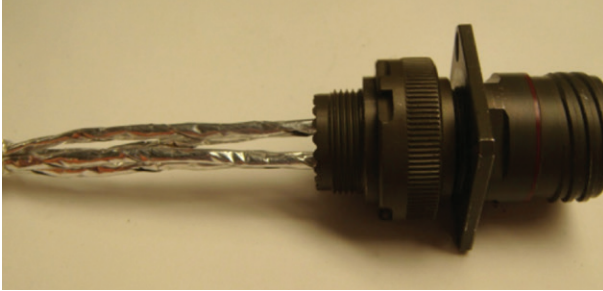

Figure 69: Connecting the grommet to the receptacle
- Slide the connector grommet to the receptacle, and torque it to 40 inch-pounds using the appropriate torque fixtures (Figure 69).